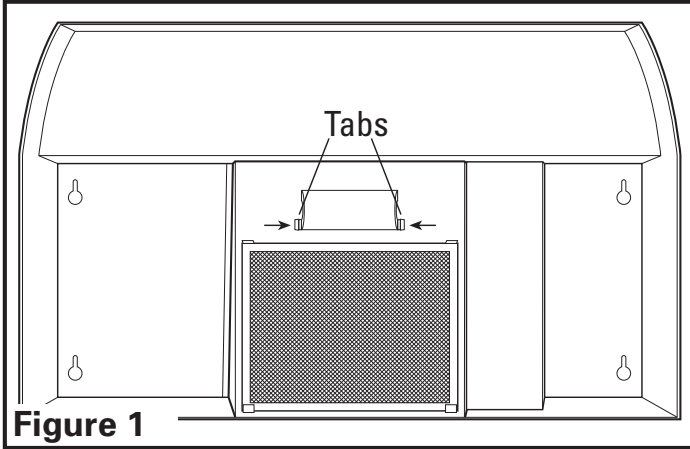

Figure 1
3. Remove lamp cover by squeezing the two tabs together (**Figure 1**).